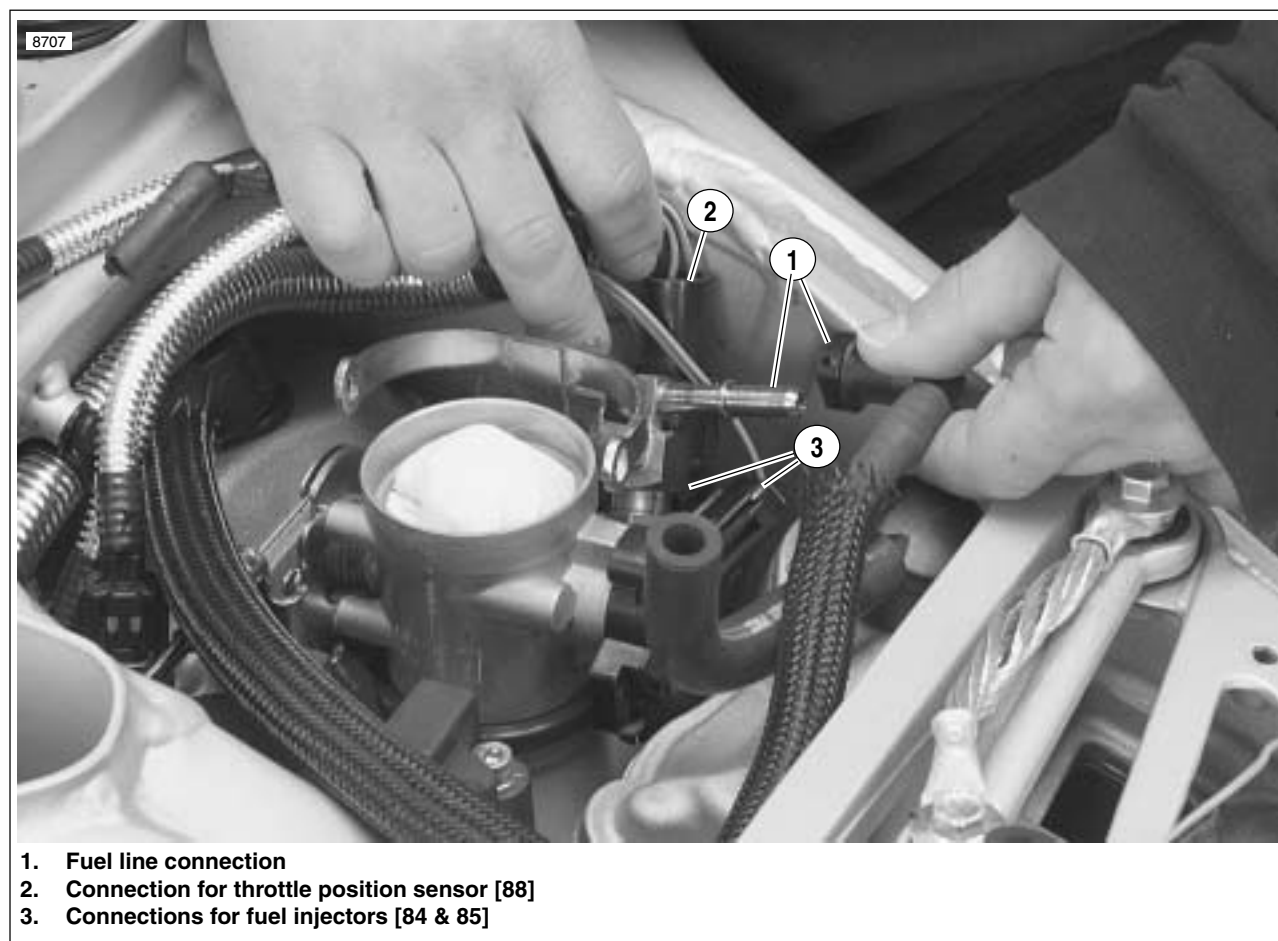

Figure 3-16. Fuel Line and DDFI Electrical Connections
6. See Figure 3-16. Disconnect fuel line.
7. Disconnect throttle position sensor (2) [88].
8. Disconnect fuel injector leads (3) [84 & 85].